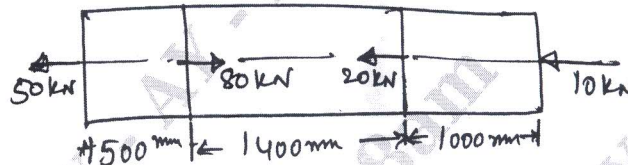

Fig Q1(c)
- c. A brass bar having cross-sectional area  $300\text{mm}^2$  is subjected to axial forces as shown in Fig Q1(c). Find the total elongation of the bar. Take  $E$  as  $84\text{GPa}$ .